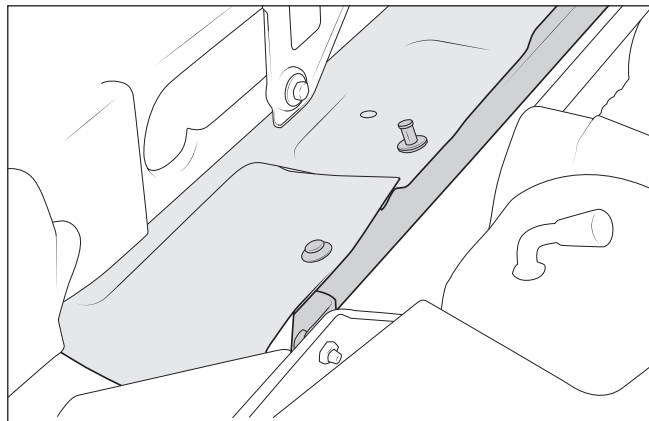

Figure 29
11. Install push pins securing the air dam to the bracket (fig. 29).